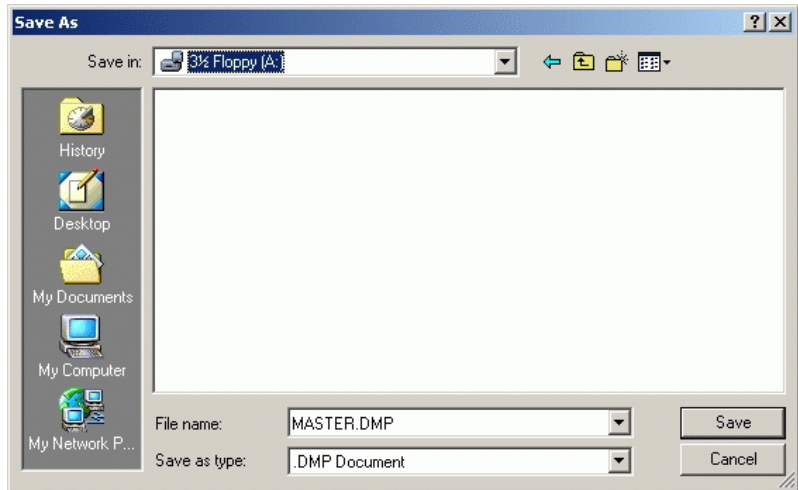

Figure 4-28 Save As Dialog Box
4. Select the *Save Target As* menu option. The *Save As* dialog box displays (Figure 4-28 on page 4-46).